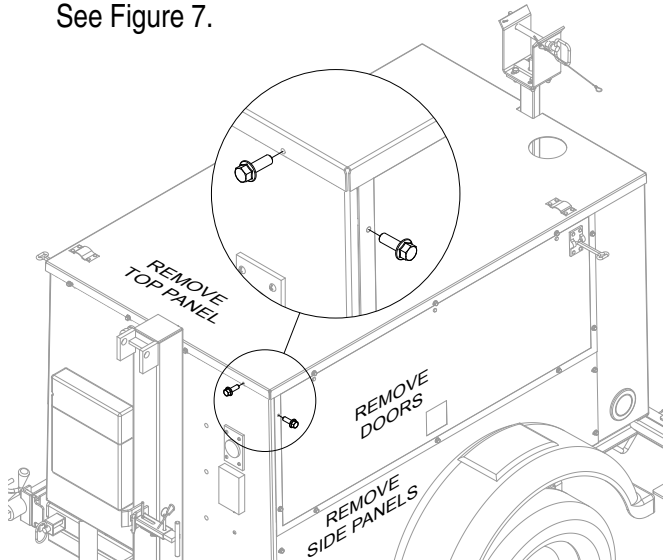

Figure 7. Remove Cabinet
1. For easier access to the generator, remove doors, side and top panels from trailer. Retain mounting hardware. See Figure 7.